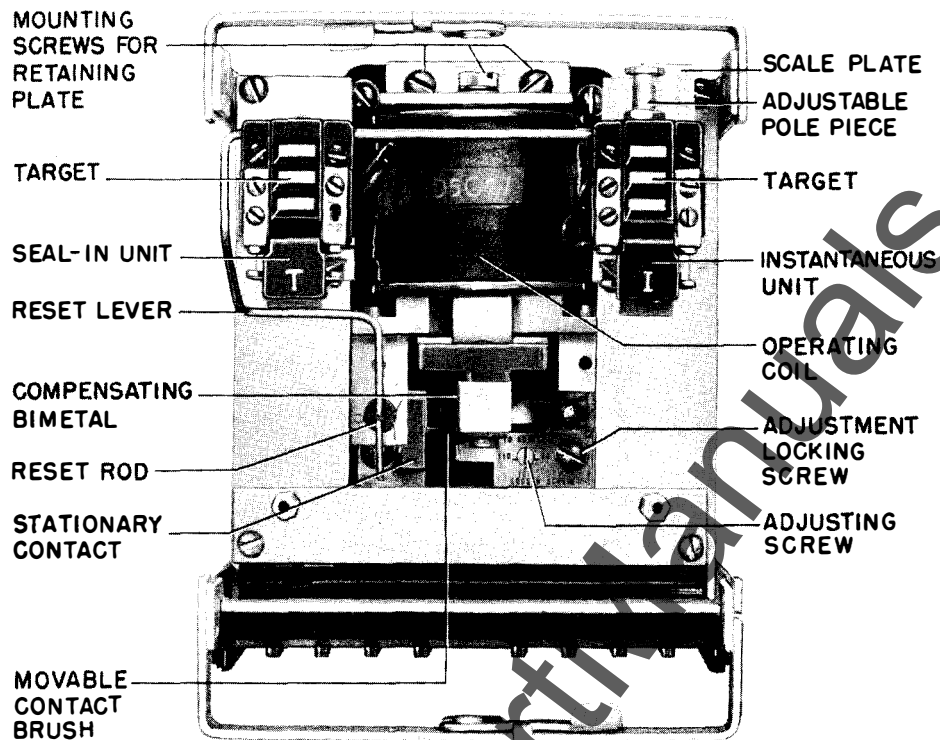

Fig. 2 Type TMCIIA With Nameplate Removed To Show Adjusting Plate Of Thermal Unit
2. Loosen the three mounting screws and remove the retaining plate (see Fig. 2).